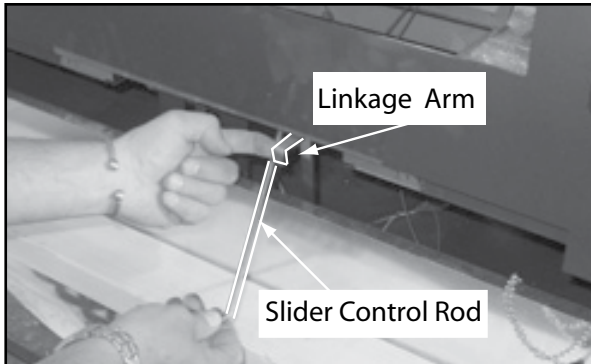

Figure 36.1
7. Move slider control rod and linkage arm to the right and out of the way. Pull rod down and out towards you. Lay the control arm down. Figures 36.1 and 36.2.